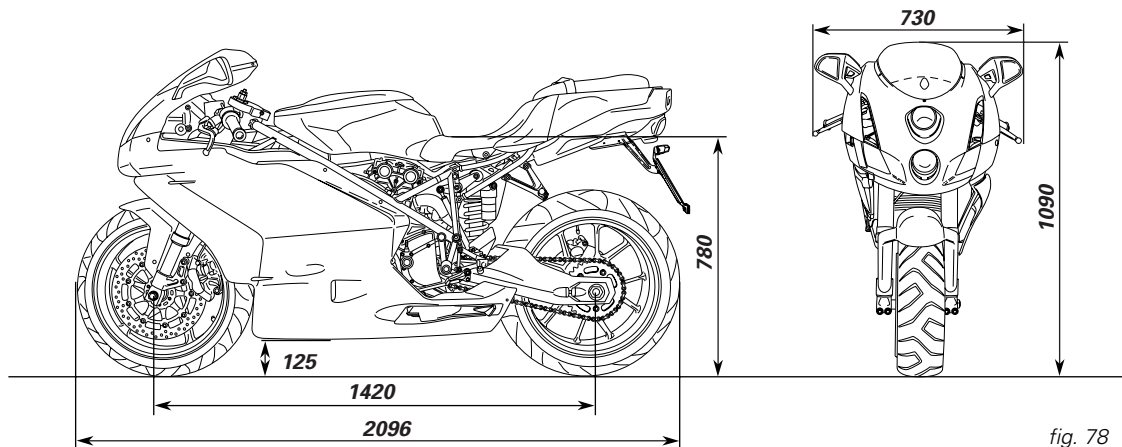

fig. 78
**Overall dimensions** (mm) (fig. 78)